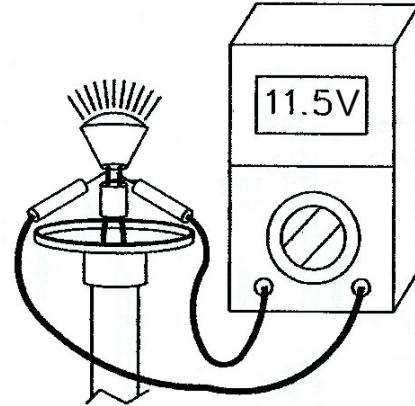

Figure 6
7. **CHECKING THE LAMP VOLTAGE:** Verify that the voltage to the lamps is between 11.0 and 12.0 Volts as shown in Figure 6, noting that the most important aspect being not to exceed 12.0V. If necessary, adjust the wiring connection at the transformer upwards or downwards one voltage step.